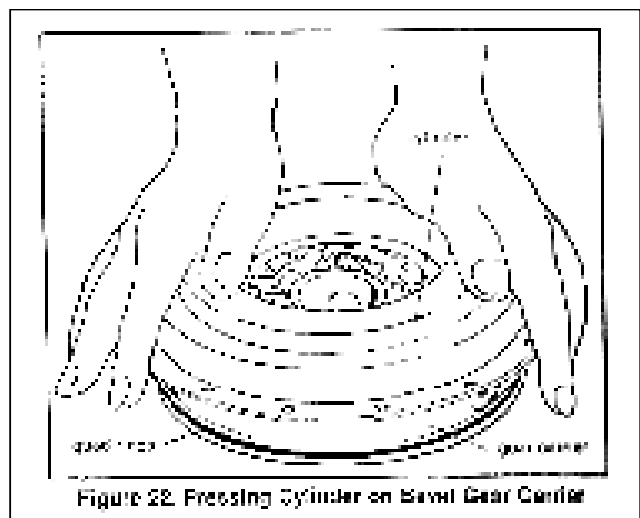

Figure 22. Pressing Cylinder on Bevel Gear Carrier
b). With forward side of gear carrier up, press cylinder on by hand. (See figure 22)